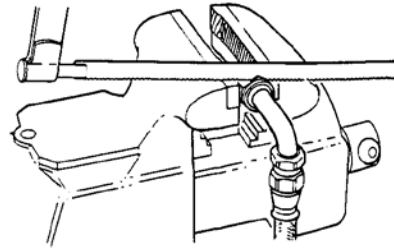

Figure 9 - Removing Nut From Fitting
- (1) General — Replace all scrapped components.
- (2) Damaged swivel nuts may be replaced as follows:
- a. Cut nut down to retaining wire as shown in Figure 9.